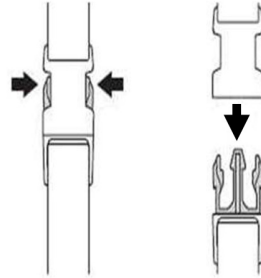

Fig. 6B
3. This belt provided quick-release mechanism. Press the both side of the release button with one hand, the machine can be released quickly from the operator in the event of emergency (e.g. occur spark, smoking or vibrate abnormally). (Fig.6B)